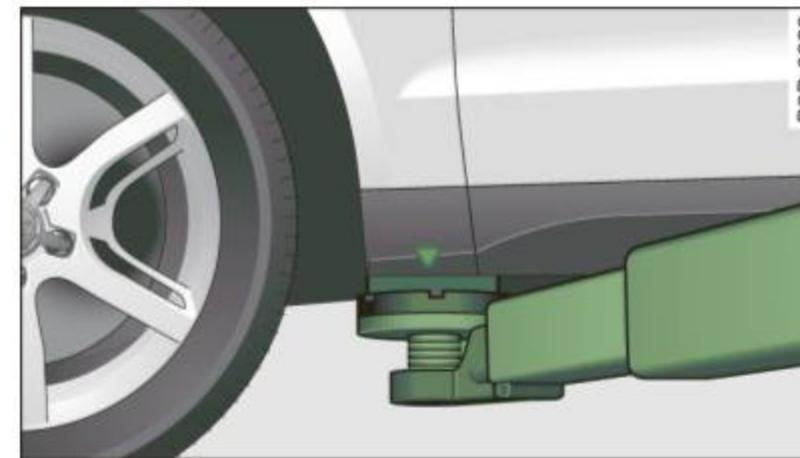
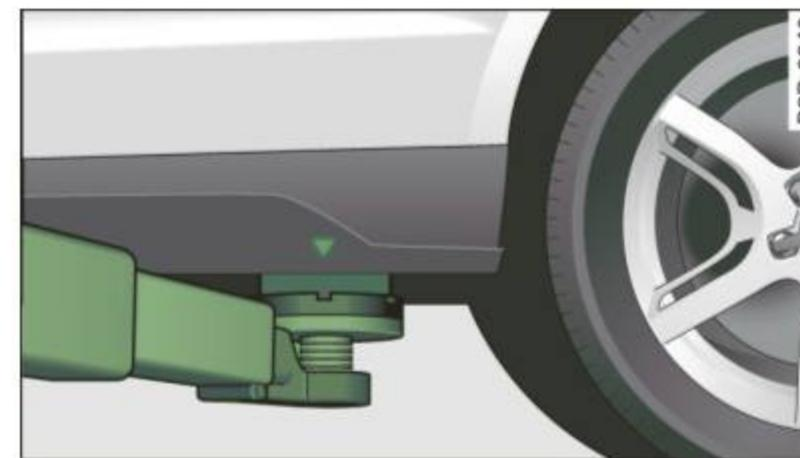

Fig. 238 Front lifting point
Fig. 239 Rear lifting point
- Locate lifting points ⇒ fig. 238 and ⇒ fig. 239.
The lifting point is located on the floor pan reinforcement about at the same level as the jack mounting point ⇒ *page 314*, fig. 238. **Do not lift the vehicle at the vertical sill reinforcement.**
The lifting point is located on the vertical reinforcement of the lower sill for the onboard jack ⇒ *page 314*, fig. 239.
- Always lift the vehicle only at the special workshop hoist and floor jack lift points illustrated ⇒ *page 314*, fig. 238 and ⇒ *page 314*, fig. 239.